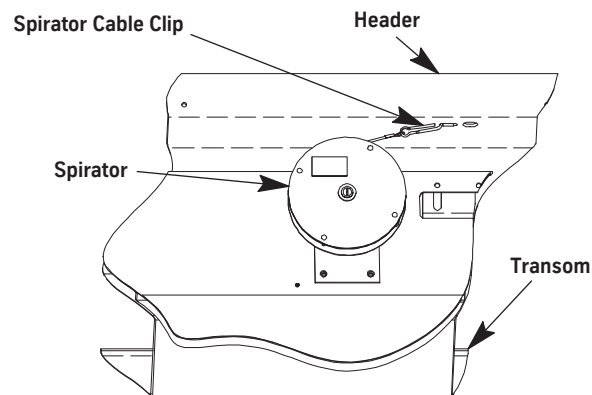

Figure 66 - Spirator
2. Use the spirator cable clip to attach the cable to the header. See Figure 66.